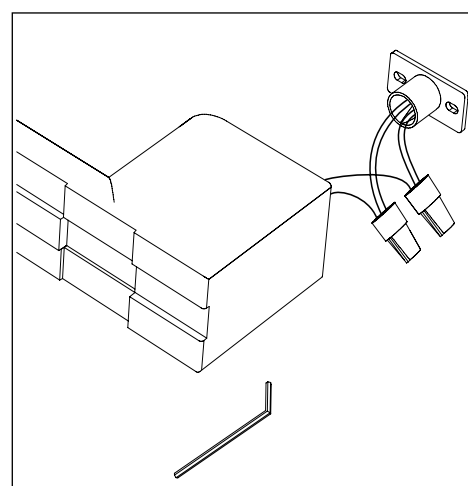

Fig 5.0
- Finally, push the towel rail onto the brackets and fix the towel rail in position using the allen key provided to tighten the stainless steel grub screws in the underside of the towel rail. See Fig 5.0